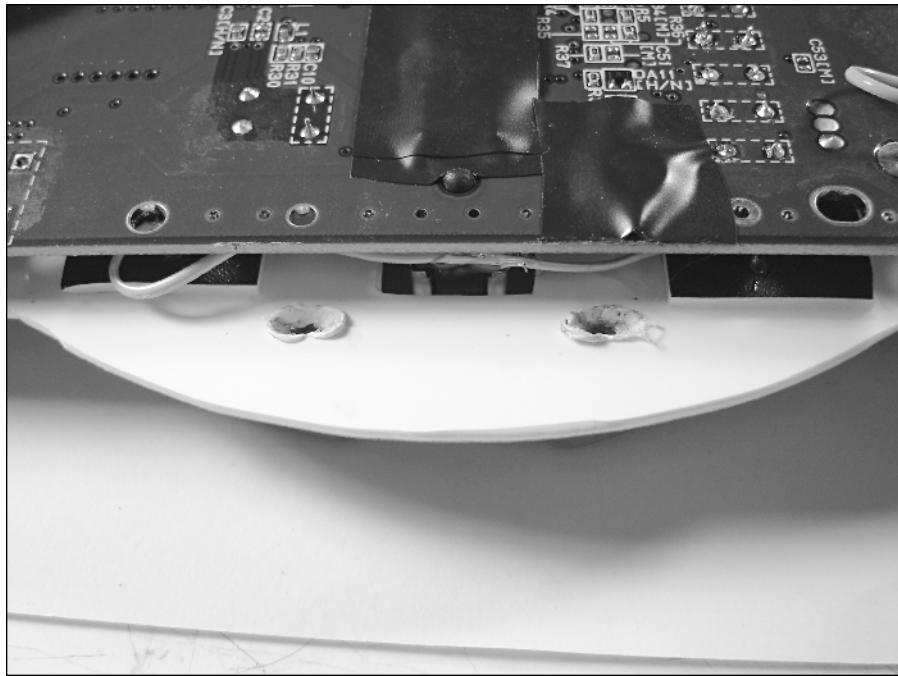

FIGURE 10-44: Making “targeting slits” in the plastic.
- **The top two 1-1/4" screws that go through the balsa in the battery compartments may not line up to the top two nuts on the front plate.** To work around this problem, use your soldering iron to widen the two holes on the inside of the rear plate, as shown in Figure 10-44. Stick the iron into the holes and tilt it left and right. This melts the plastic and makes a groove, so that when you insert a screw, you can tilt it left and right and have a better aim when connecting it to the nuts on the front plate.